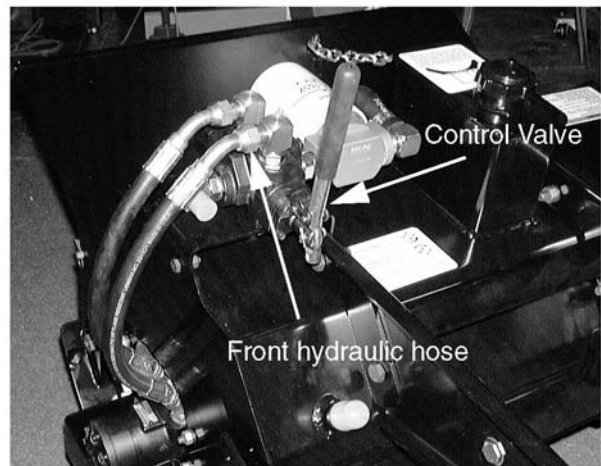

Figure 8-59.
3. Using a pair of 1" wrenches, disconnect the front hydraulic hose from the male fitting on the control valve. See Figure 8-59.